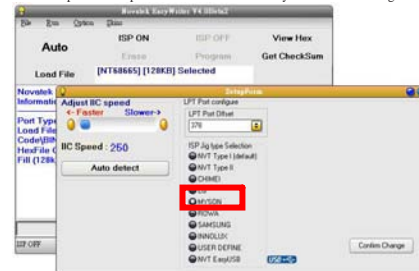

Fig.7
3. Press Option->Setup ISP Tool then select the Myson as shown in Fig.7.